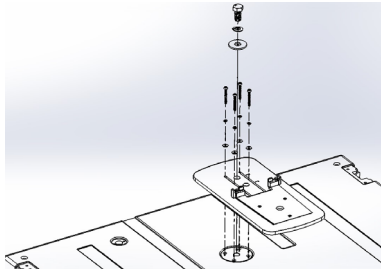

Figure 5 - Attach Mount Plate
3. Attach Mount Plate (D) to the top of SBX218/SBX118/RSX18F (Figure 5)
- Lock into place with M6 screws (H), lock washer (I) and flat washer (J)
- Secure mount with M20 Screw (E), lock washer (F) and flat washer (G)